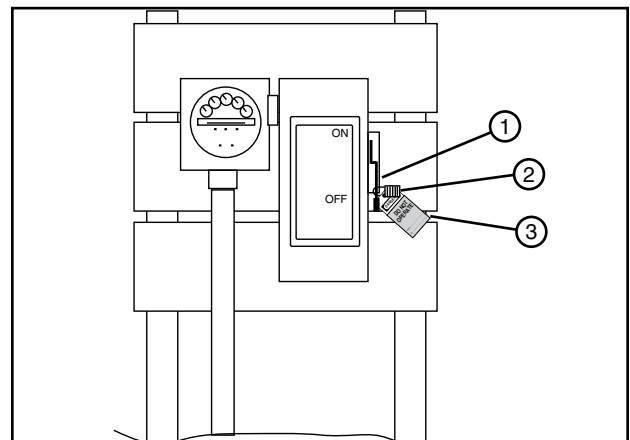

Figure 11-1 1. Public Power Service Disconnect
1. SHUT OFF and LOCK the public power service disconnect to the irrigation machine. See figure 11-1.
FILL OUT the blue (OSHA safety color code) tag and attach to the disconnect after locking. See figure 11-1.